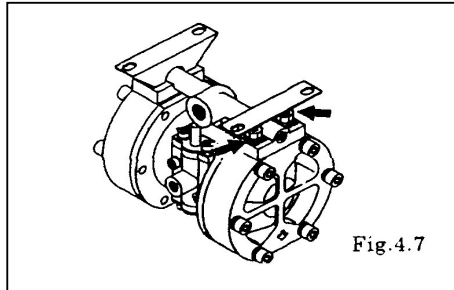

Fig.4.7
- Turn over the main body assembly. [Fig. 4.7]
- Remove the 4 retainer nuts from the “in” manifold, and remove the “in” manifold. [Fig. 4.7]